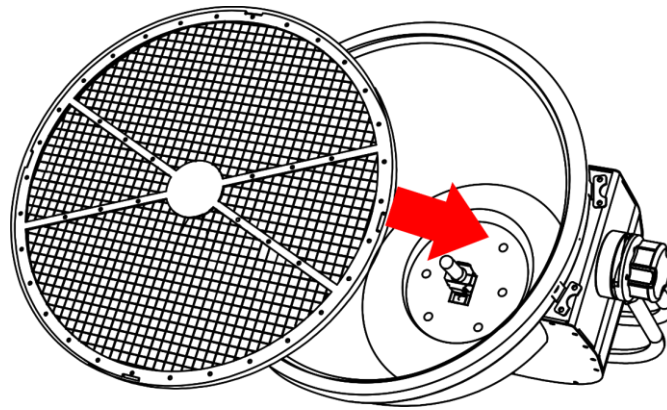
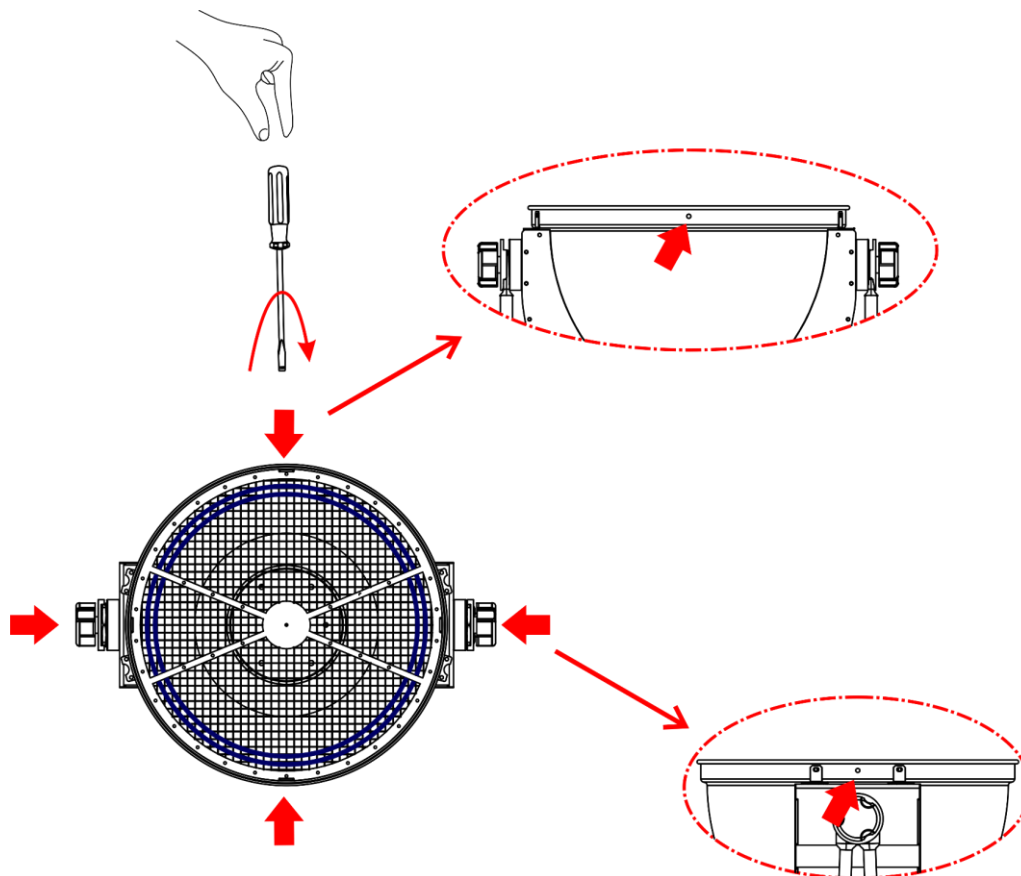

Fig. 11
Fig. 12
- 09) Replace the lamp grill (Fig.11) and fasten the 4 screws at the top of the fixture (Fig.12).